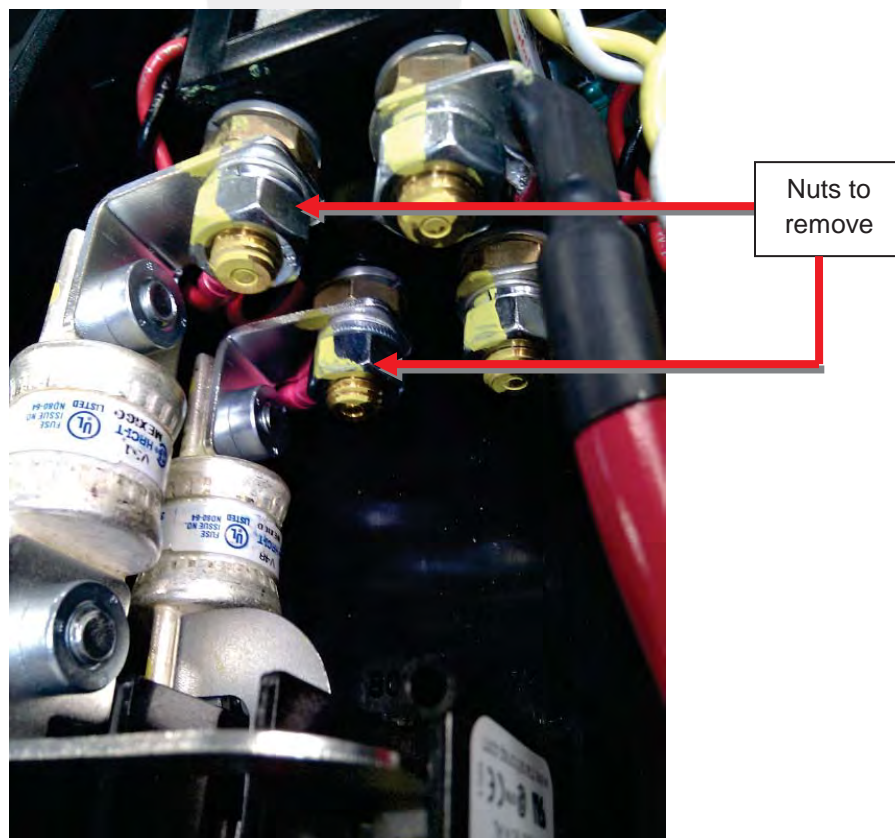

Figure 3
8. Use a 13 mm socket wrench to loosen the nuts that fasten the top of the upper bus bars (torque 3.5 Nm) (Figure 3).
2. Use a paint or ink pen to mark the torque position after reassembly, using a different color than manufacturing (manufacturing usually uses yellow). Use one continuous motion to mark the bolt, washer, nut, and bus bar (Figure 3).